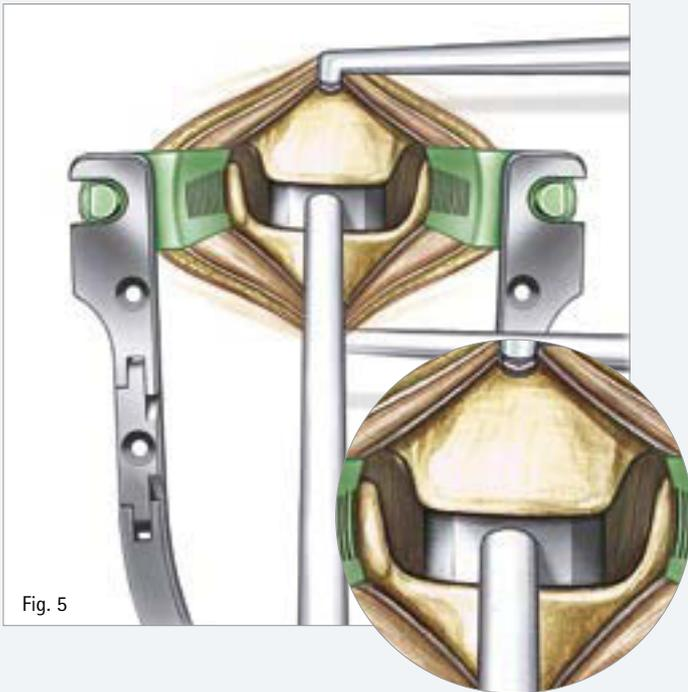

Fig. 5
- The correct size of CeSPACE® can be determined using the trial implants (Fig. 5).